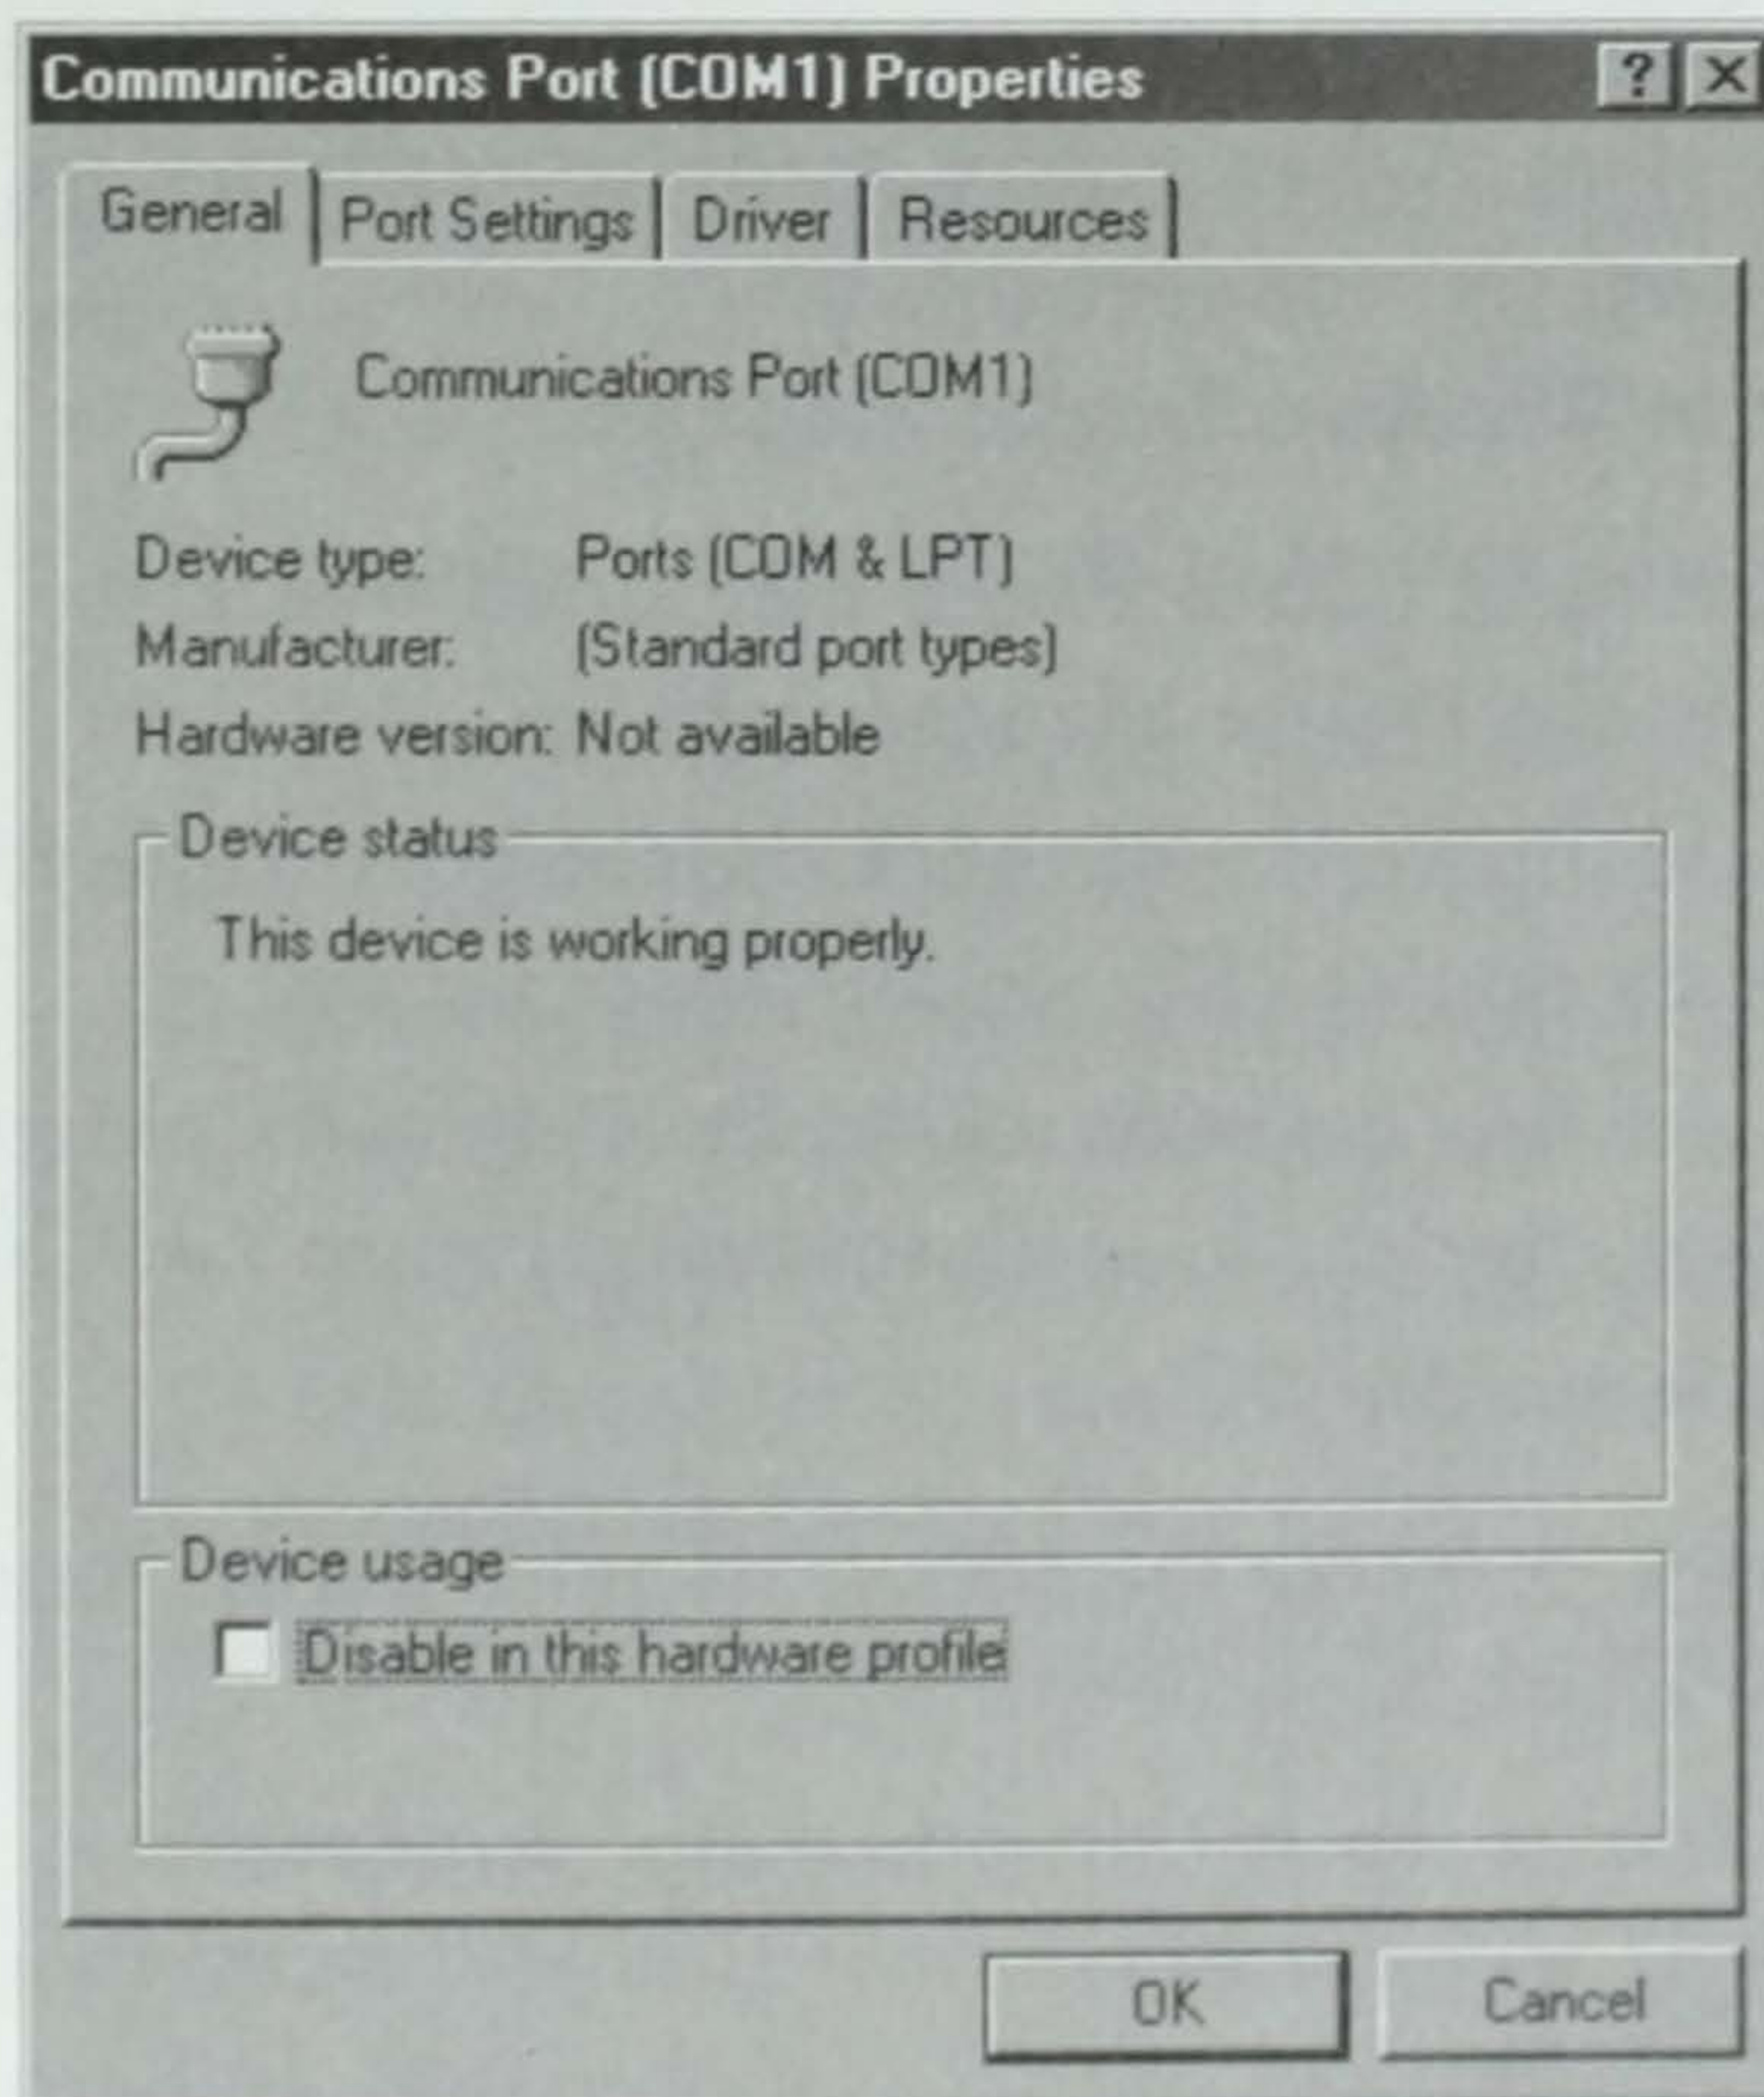

Figure 5.2 Properties page for device.
5. Highlight the device, then click on Properties to show the properties information for the device in question (see Figure 5.2).